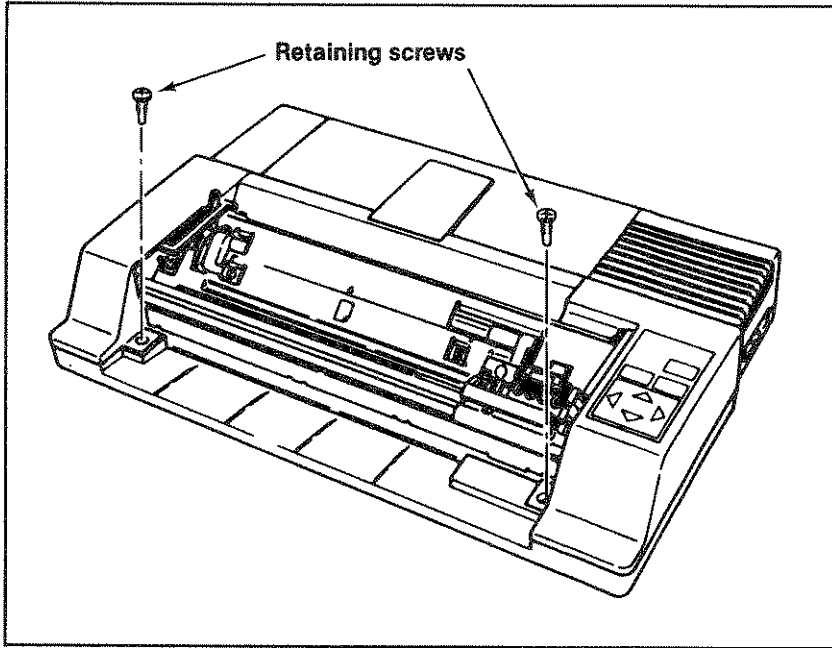

Figure C-3. Removing the retaining screws
3. Using a #2 Phillips screwdriver, remove the two retaining screws (Figure C-3).